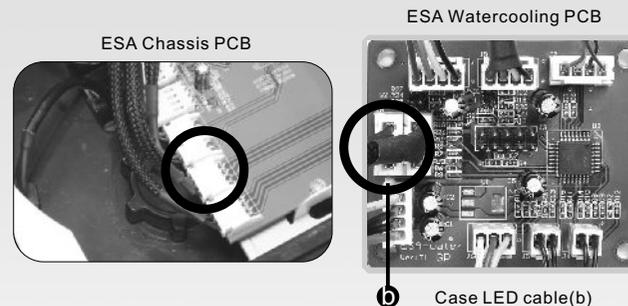

Figure 1
- Case LED :Connect to ESA Watercooling LED connector marked in Figure 1(P19).
In the NVIDIA Control Panel under performance item, you can use Device settings to choose or Watercooler (Figure1). At each device's setting, you are able to adjust PWM & PWM Fan speed in percentage. All the adjustment will display in NVIDIA Monitor.
(Figure1)